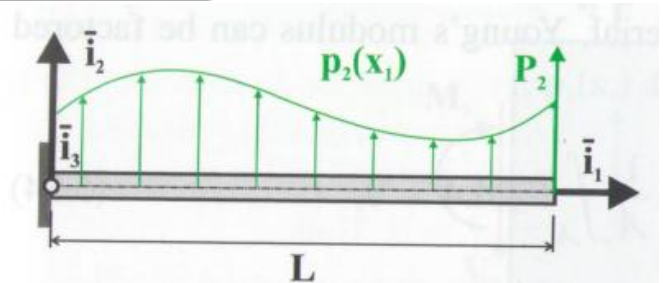

Fig. 5.14. Beam subjected to transverse loads.
- Beams subjected only to transverse loads (Fig. 5.14)
- beam under a distributed transverse load, $p_2(x_1)$, Fig. 5.14